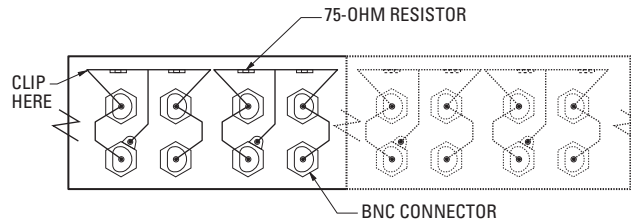

Figure 1. Rear Panel Internal View
- b. **Looping operation:** To convert to looping operation, remove the cover. Locate the 75-ohm resistors at the rear of the BNC jacks. Use wire cutters to clip one of the resistor leads for each input that you want to loop. Refer to Figure 1. Replace the cover.